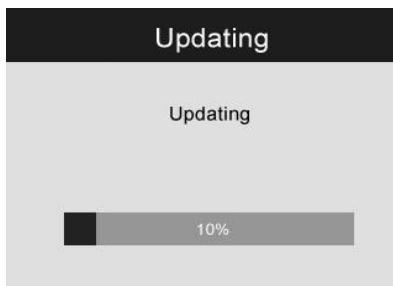

Fig. 31
- 4) Press **Power** button to turn on the tool and then press **UP** button until the update screen pop up, select YES to upgrade the tool (*Fig. 31*)